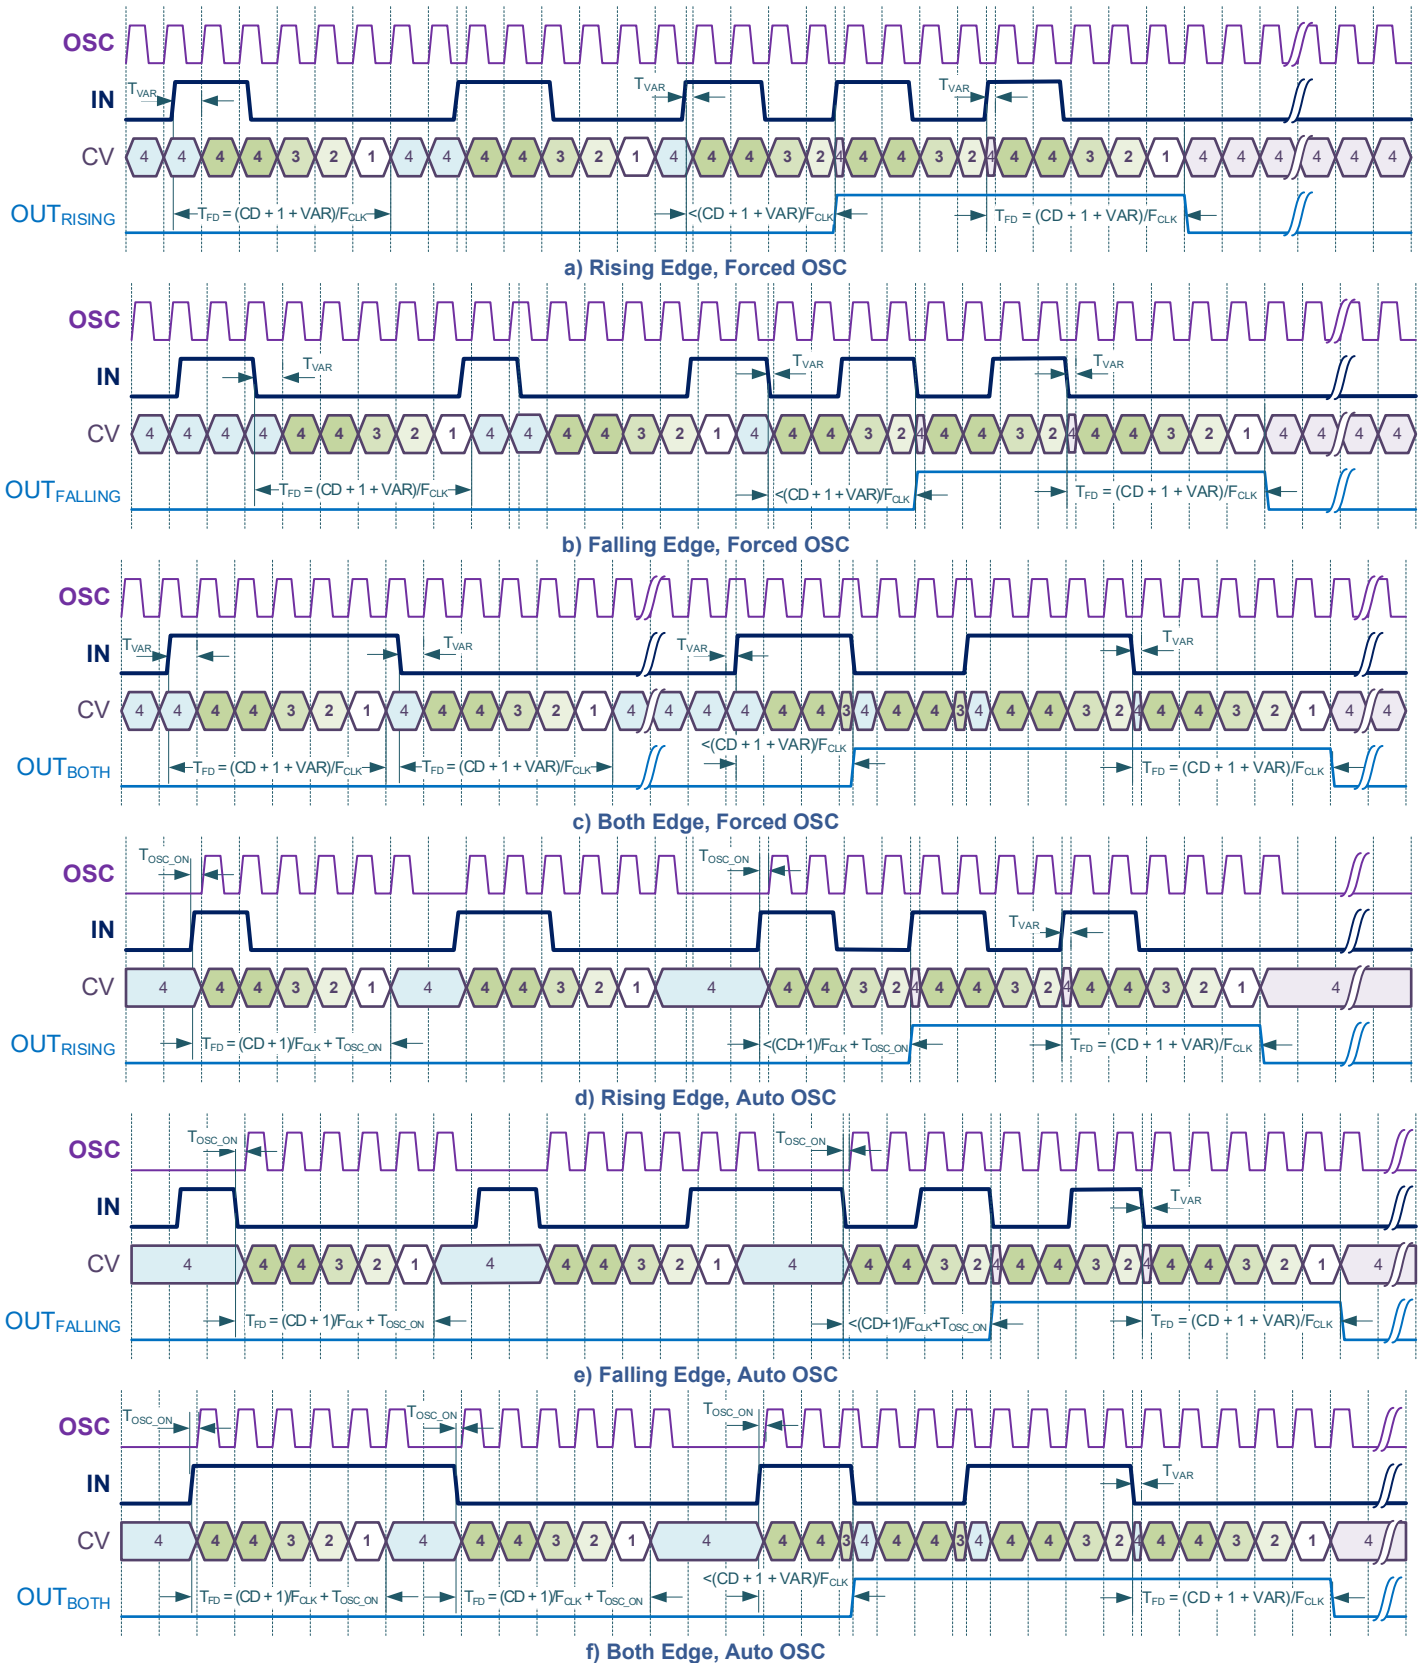

Figure 8.8. Frequency Detector Mode (Control Data: 4)
The timing diagrams of the Frequency Detector Mode are shown in the Figure 8.8.
- Frequency Detector (Figure 8.8)